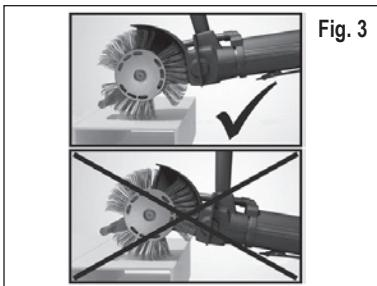

Fig. 3
8. To obtain the best performance, it is to be ensured the accelerator bar is guided close to the surface to be machined. If the accelerator bar is too far from the surface, the performance will drop significantly. See Fig. 3. For a more detailed description of the function of the **MBX®** Bristle Blaster® see the DVD supplied or www.monti.de.